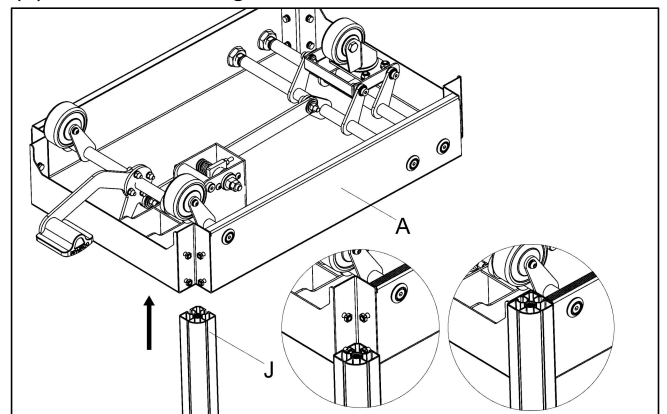

Fig.6
c. Insert the threaded end of the leg (J) under the base platform (A). Until the end is flush with the base platform (A) and hand tighten the bolts (#3) in advance to hold the leg into place. Use the provided wrenches to securely tighten it with a tool. Repeat this step to install the remaining three legs (J) as shown in Fig.6 for each corner of the base.